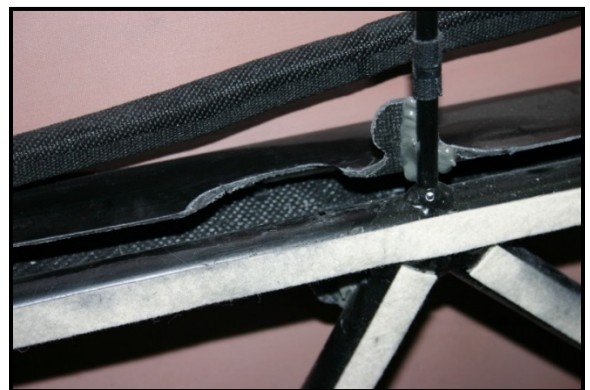

FIGURE 7 – Deburred Notch
24. Using a vacuum to collect dust and chips as you go, cut or grind a notch where marked in the upper and lower flanges of the upper stringer large enough to allow the fuel line to route through the stringer and outboard of the fuselage tube. The notch will have a minimum width of about 5/8" and a length of 1-1/8". Drill one 3/16" diameter hole through the stringer near each notch. Deburr all edges and clean up any stray dust or carbon fiber chips. Install grommet strip along edge of notches. See Figure 7.